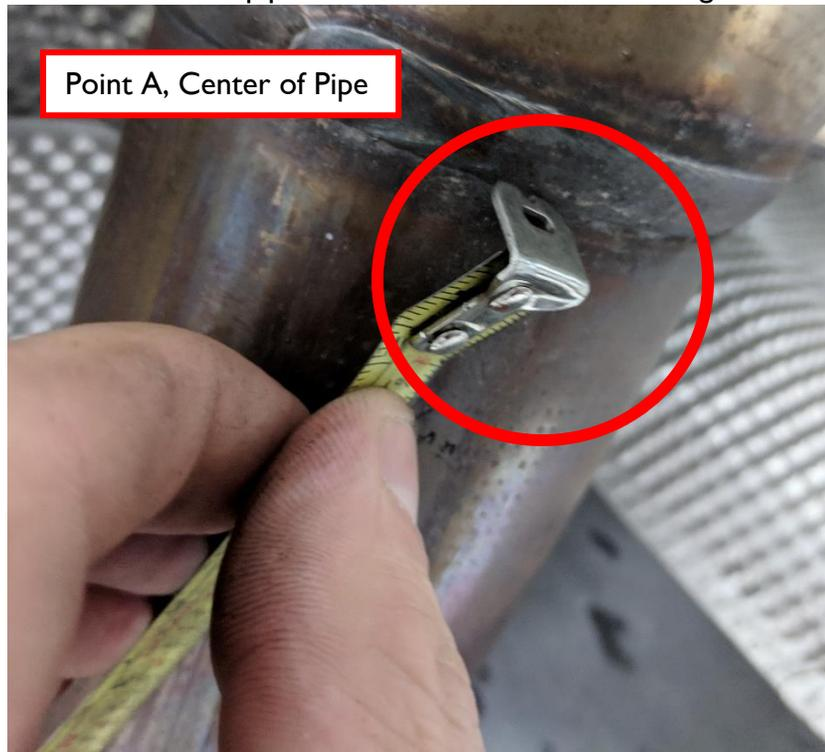

Figure 3
- 2.1 The center of the pipe on Point A should resemble Figure 3 below.